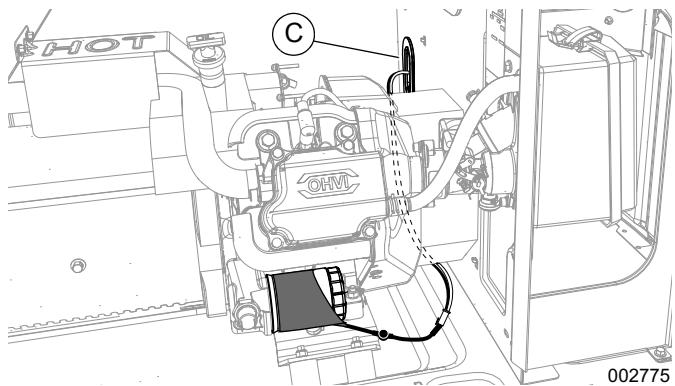

Figure 4. Routing Heater Wires (9 kW)
3. Plug the connector into one of the Y-harness sockets (B).
4. See **Figure 4**. Pass the lead wires and empty Y-harness socket beneath the engine and through the harness grommet (C) in the engine divider panel,